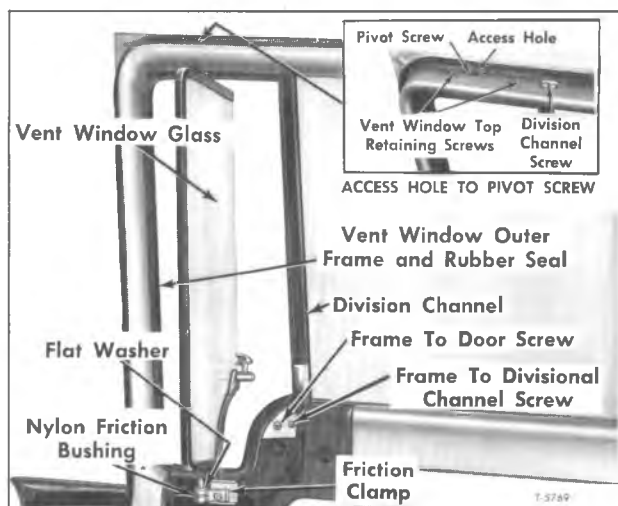

Figure 23—Door Vent Window Installed
1. Remove access trim panel attached to door just below vent window with five screws. Figure 23 shows access opening to friction components.
2. Using screwdriver, turn clamp screw (fig. 23) to obtain two to four pounds torque while moving vent window from a ten-degree open position to a full-open position. Use either a push or pull-type spring scale positioned at rear edge of glass.
2. At bottom of vent glass (fig. 23), place hand to catch vent friction components, then remove screw from friction clamp. Slide clamp, friction bushing, and flat steel washer from vent shaft.
3. At top of door through small access opening (see inset, fig. 23), turn vent upper pivot screw from vent frame.
5. Install special flat washer, nylon friction bushing, and friction clamp on vent lower channel pivot shaft, positioned as shown in figure 23.